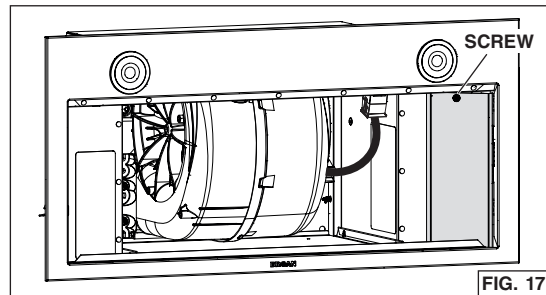

FIG. 17
3. Disassemble the electrical compartment cover (grey part in FIG. 17) from inside the unit by removing its retaining screw. Remove the parts bag behind the cover. Set aside the parts bag and the cover along with its screw.